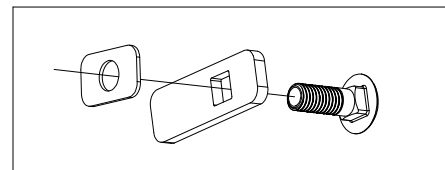
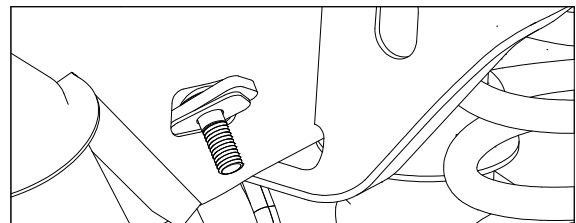
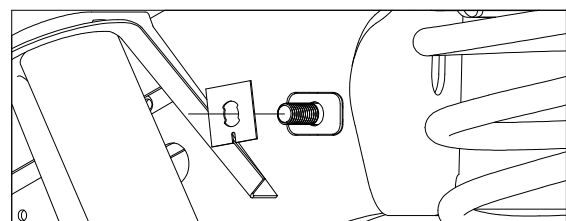

Figure F2: Carriage bolt assembly.
Figure F3: View looking into driver side wheel well.
Figure F4: View looking into driver side wheel well.
2. **Install the carriage bolt into the frame.** First pass a locking strap over a 1/2" carriage bolt, then pass a rectangle frame spacer over the same bolt, see Figure F2. While holding onto the threaded portion of the carriage bolt, pass the locking strap completely into the frame through the rectangle hole, see Figure F3. Push the rectangle frame spacer into the hole in the frame. Thread a bolt retainer onto the bolt and tighten until it is flush with the outside of the frame, see Figure F4. The spacer must be inside the frame hole and not stick past the face of the frame. Complete this step on both sides of the frame.